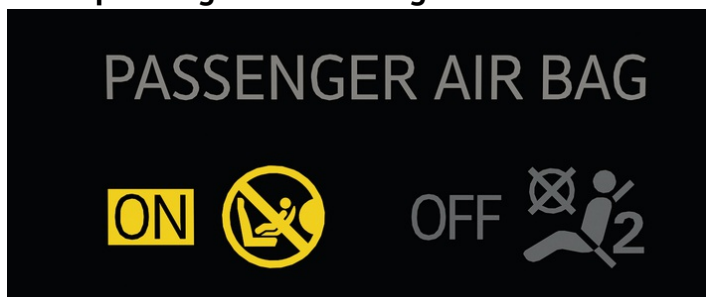

Fig. 2 In the roof console: indicator lamp for switched on front passenger front airbag.
**ON**  The yellow indicator lamp for the switched on front passenger front airbag lights up for around 60 seconds after the ignition has been switched on or after switching on the front passenger front airbag with the key-operated switch → Fig. 2 and then switches off again automatically.